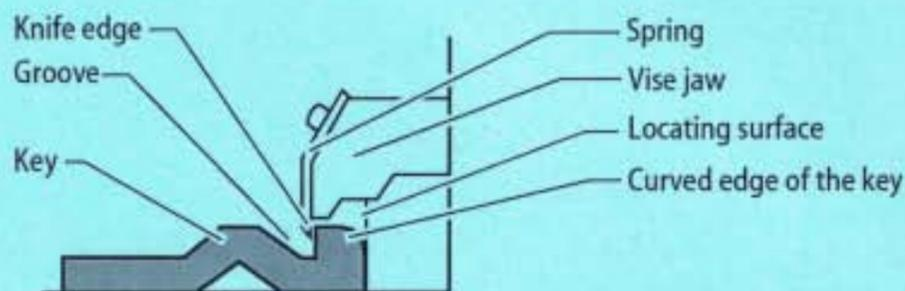

Figure 2 Proper position of a key in the vise jaw—as seen from the front of the key combinator
- 3 With the curved-edge of the key blank against the locating surface (see Figure 2), slide the key blank into the guide template opening until it stops. Make sure that the knife edge of the vise jaw fits into the groove of the key.